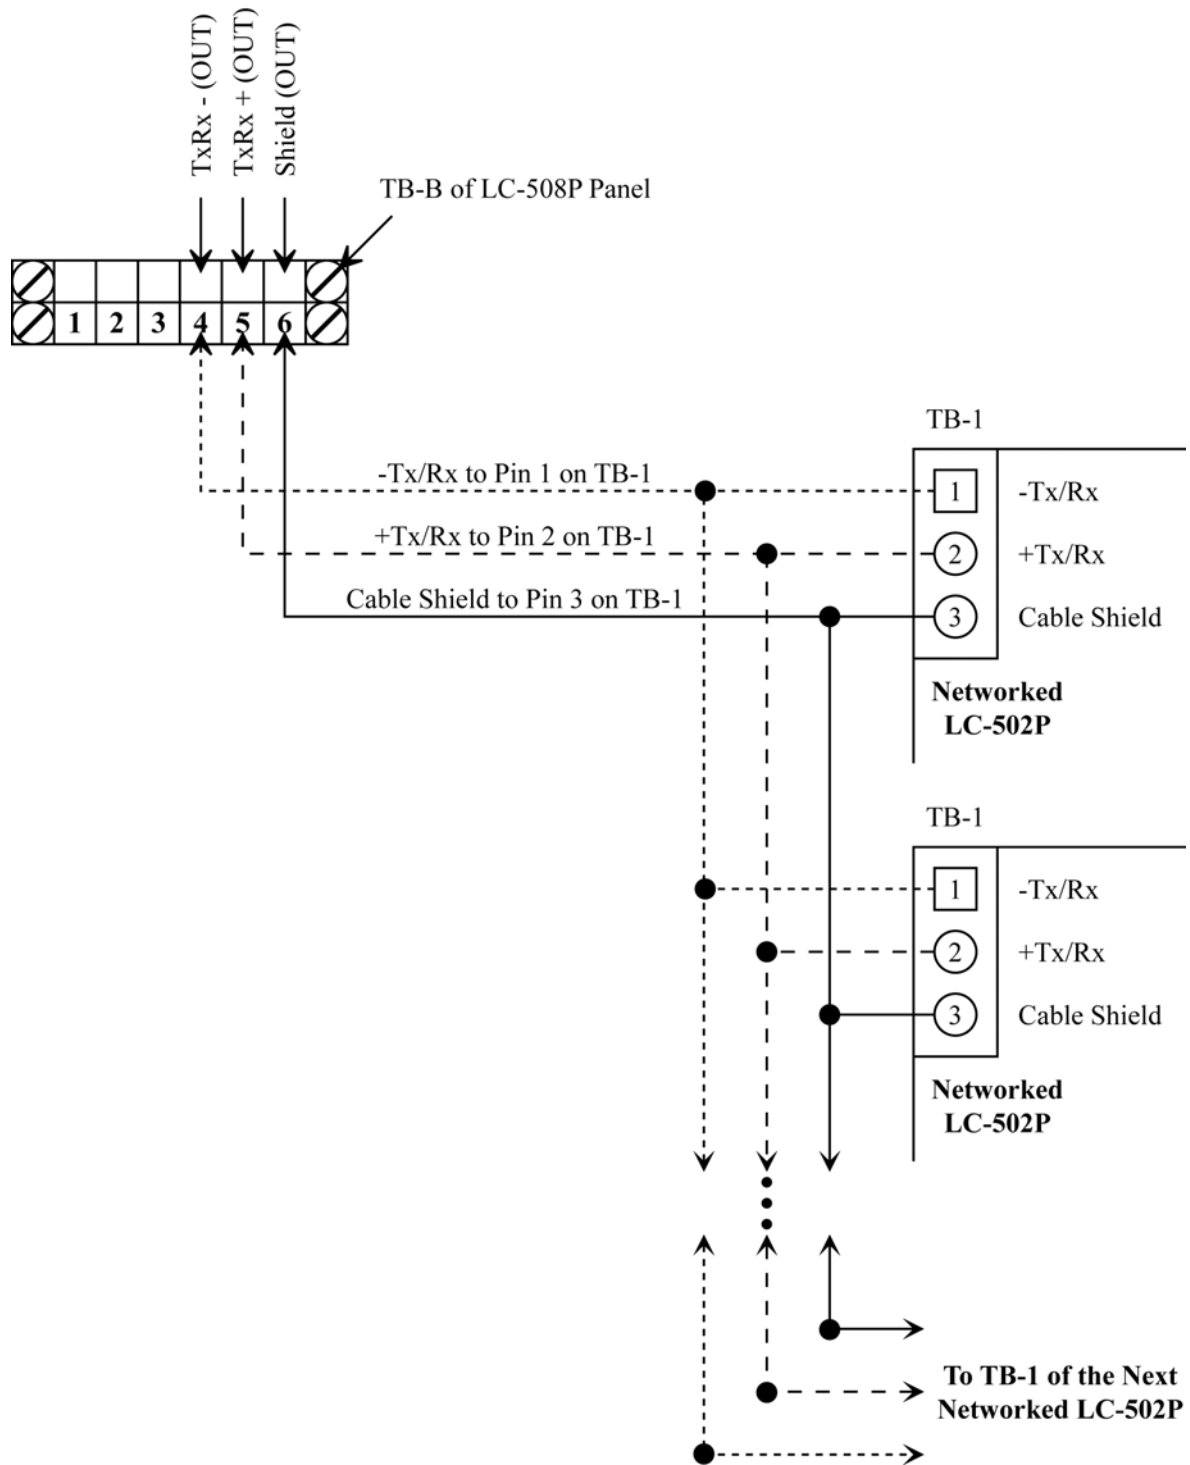

Figure 12: LC-508P to LC-502P Network Communication Wiring
3. Daisy-chain the TxRx+, TxRx-, and Shield Network Communication connections from the terminal strip on the LC-508P to each of the LC-502P panels. Make the connections per the information in Table 6 and Figure 12 on page 18.